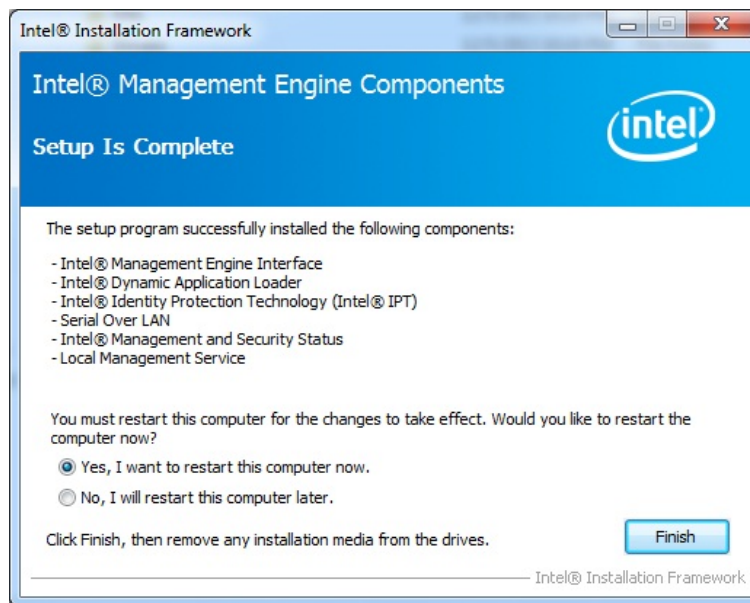

Figure 6-28: Intel® ME Driver Installation Finish Screen
Step 11: The **Finish** screen in **Figure 6-28** appears.